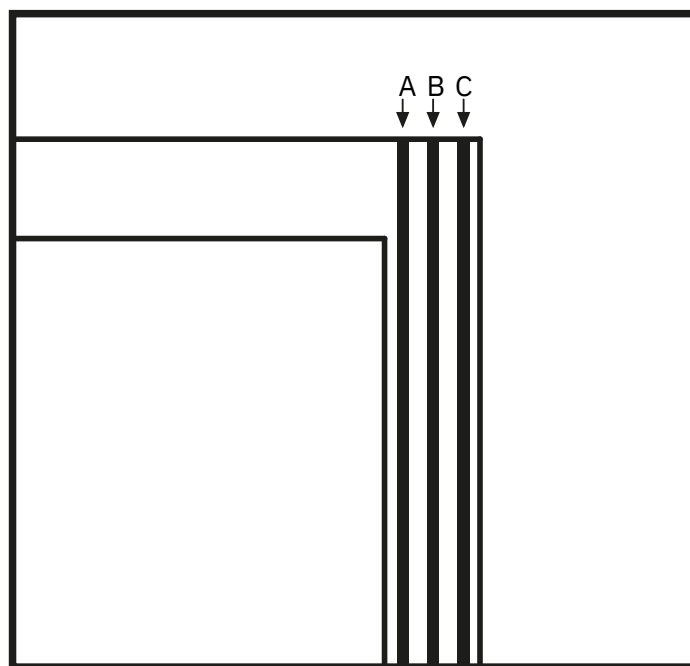

Figure 2: Top view
2. Choose a suitable location for the U-channel on the edge of the bathtub. (Fig 2)